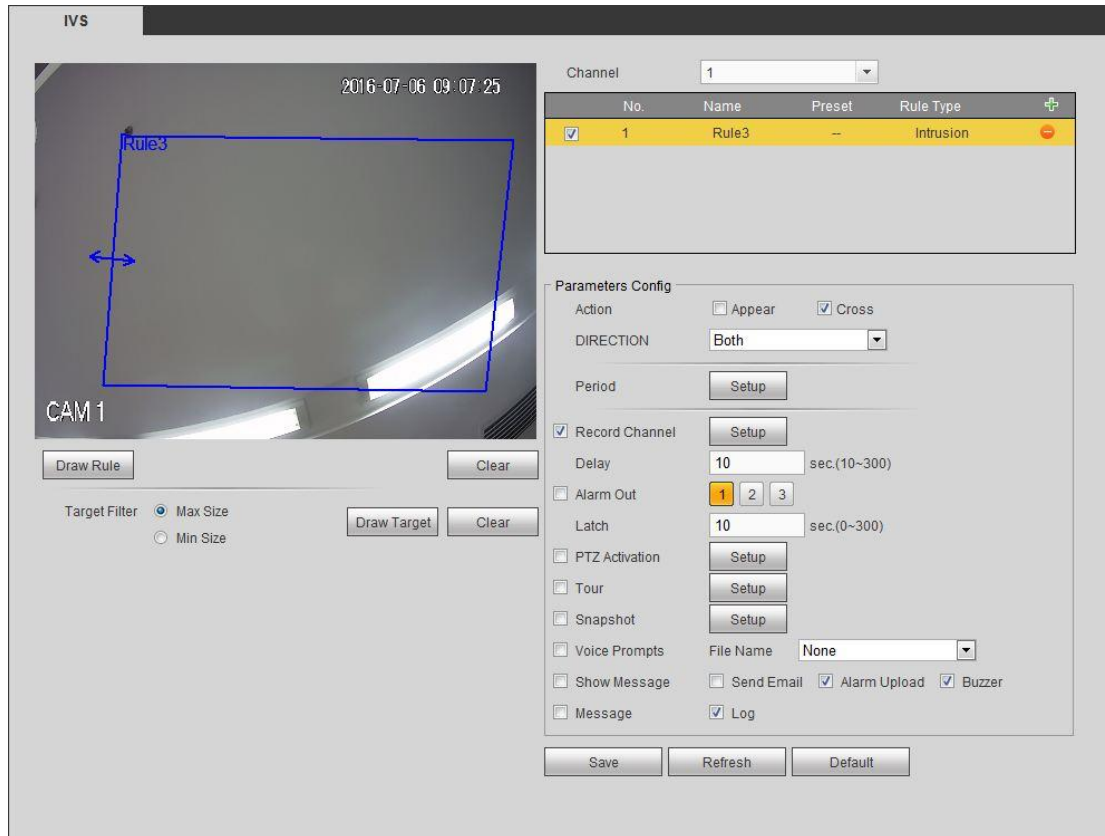

Figure 5-71
Step 3 Click Draw rule button and then left click mouse to draw an intrusion rule. Right click mouse to complete. See Figure 5-71.